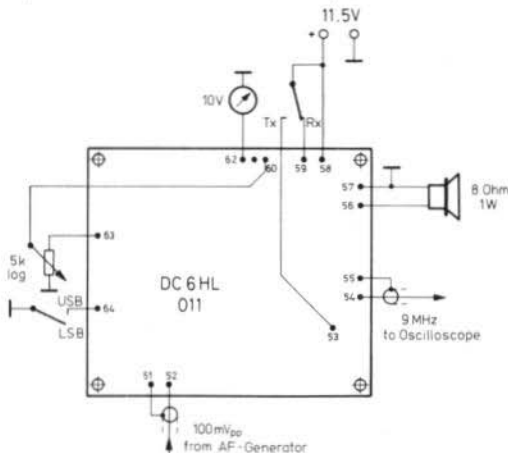

Fig. 7: The operation of the AF/IF board can be checked as shown
- Connect the board as shown in **Figure 7**.